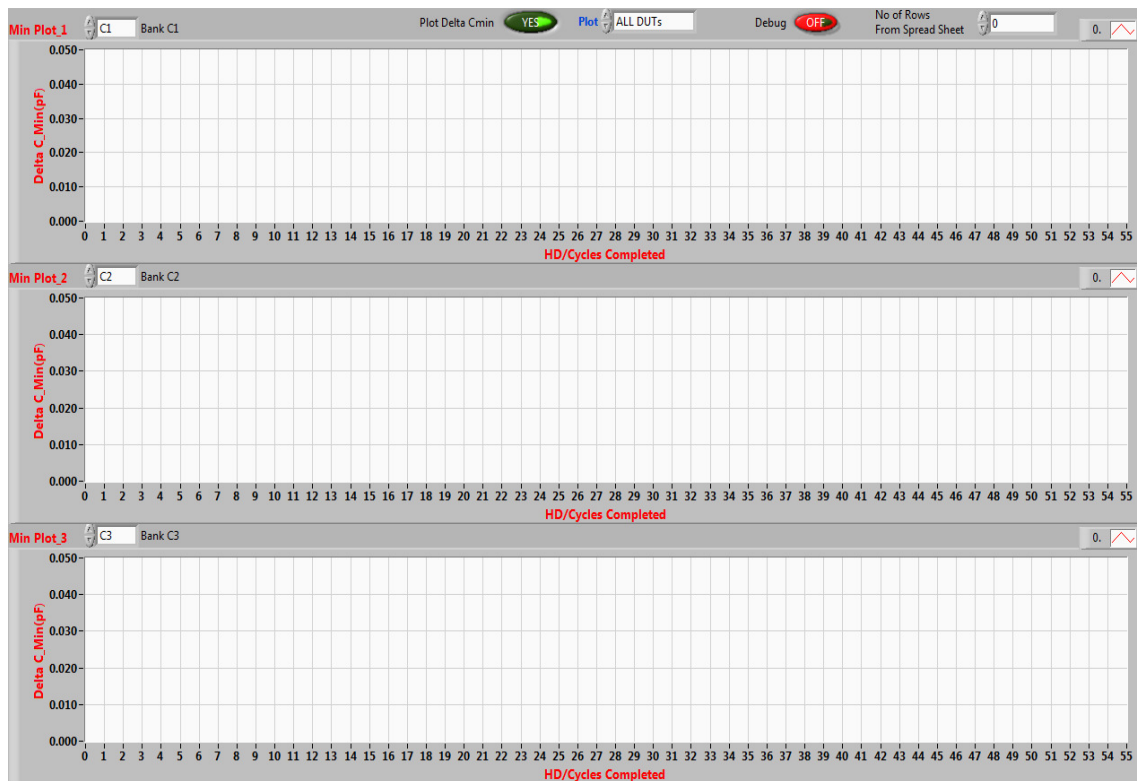

Fig. 10
- The plots below (Fig. 10) monitor the change of CMIN during stress.